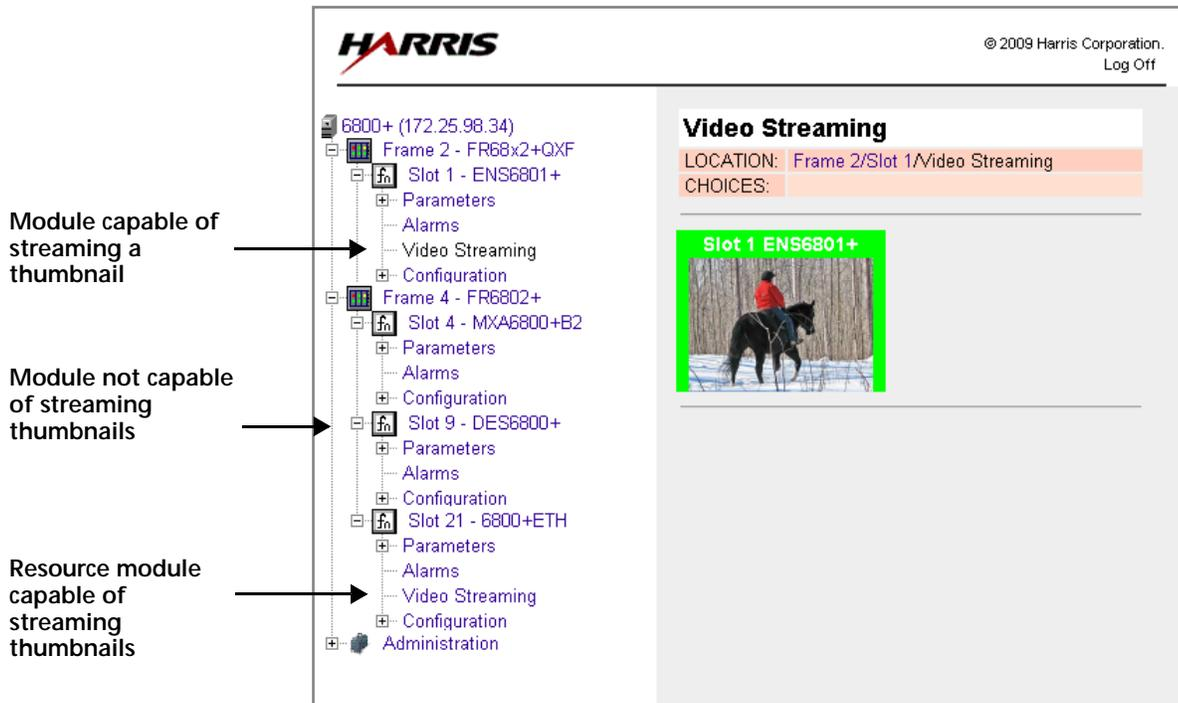

Figure 4-21 Streaming from a Single QSEE-Compliant Device
- By clicking the **Video Streaming** option below the 6800+ module in the Navigation pane, as in Figure 4-21. (Devices that do not support video streaming do not have this item in the Navigation pane.)